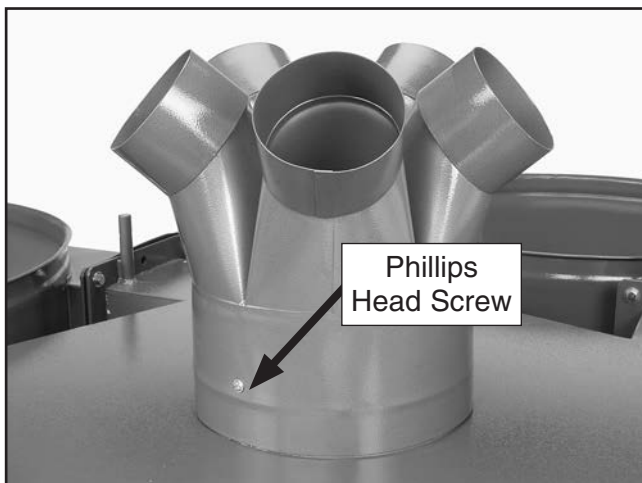

Figure 12. Inlet mounted on impeller housing.
7. Attach the inlet to the top of the impeller housing with the #10-24 x 3/8" Phillips head screw, as shown in **Figure 12**.